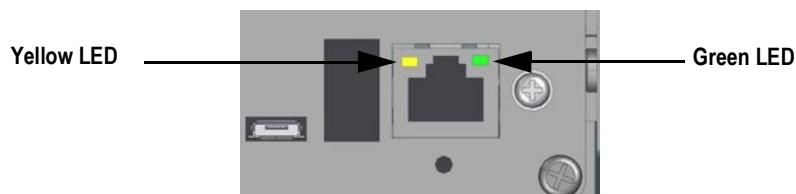

Figure 2-21. RJ45 Ethernet Jack – Panel Mount
**For RS-232, all four switches on SW3, see Figure 2-21 on page 26 must be in the OFF position.**